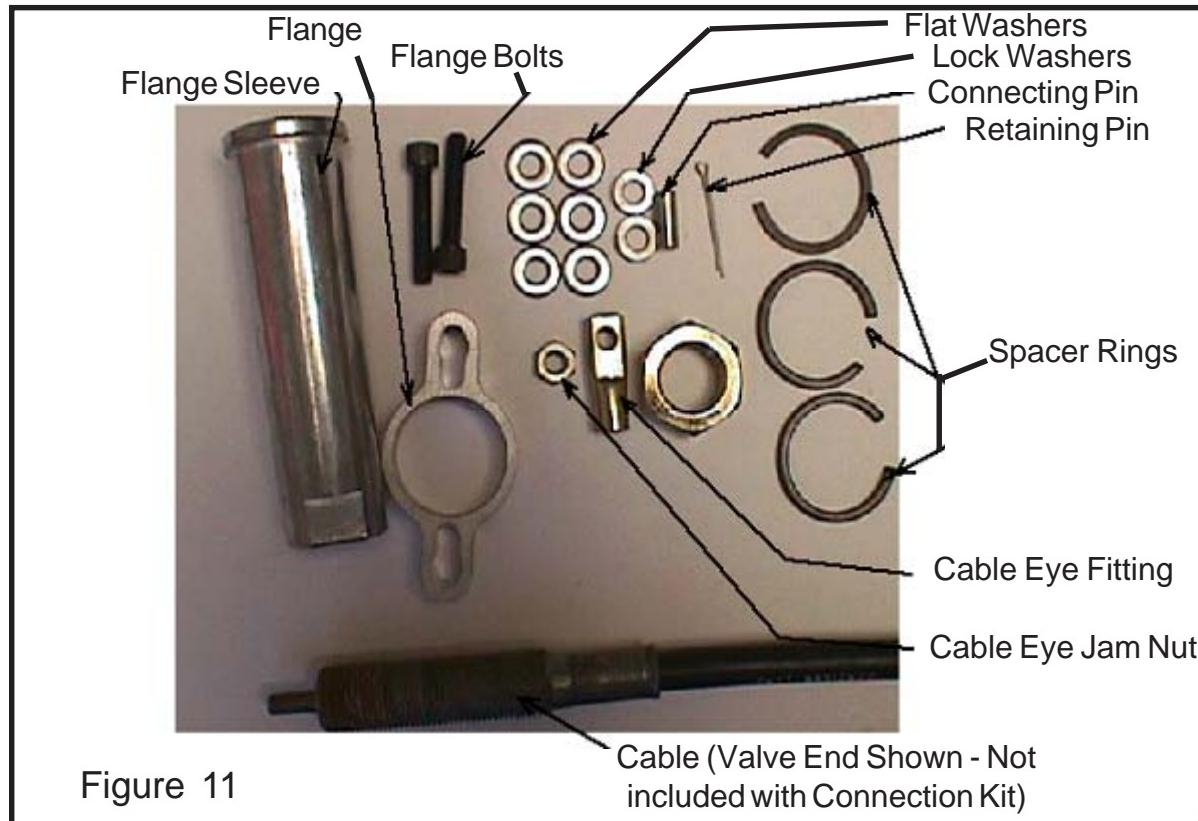

Figure 11
1. Remote operation of the boom movement control valve can be achieved with the use of cables and remote actuator handles. The remote operation system is standard equipment on cab tractor units and can be installed on ROPS tractors as well (See Figure 11). Four cable lengths are available and should be ordered based on the length required to reach from the valve to the Operator's location with out binding or kinking. Cable lengths are limited to 48,60,72 and 102 inches.
2. To install the cables to the valve, each valve section will require a cable installation kit (4 kits for a 4-spool valve, 5 kits for a 5-spool valve etc.). Each individual valve connection kit can be ordered using part number 02971274. **Figure 11** displays the contents of each kit. Cables are not included in Cable Connection Kit.